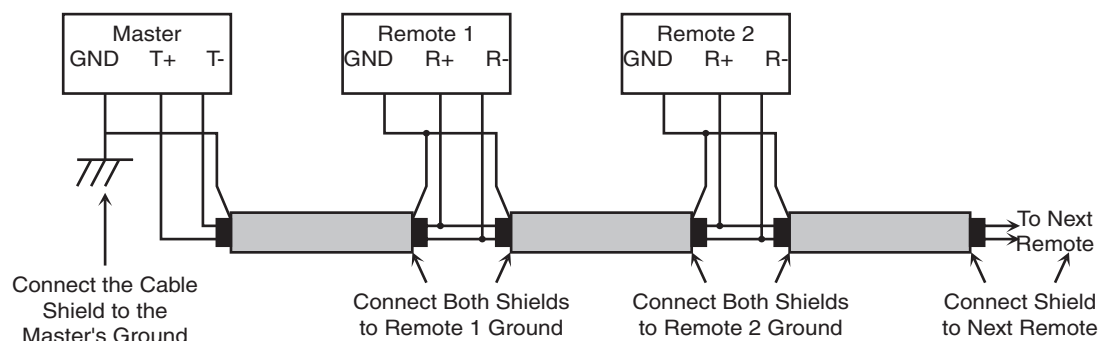

Figure 4-4: Communication Shielding Carrying a Single Ground to Each Unit
- carrying an earth ground to each unit (see figure 4-4 on page 11)